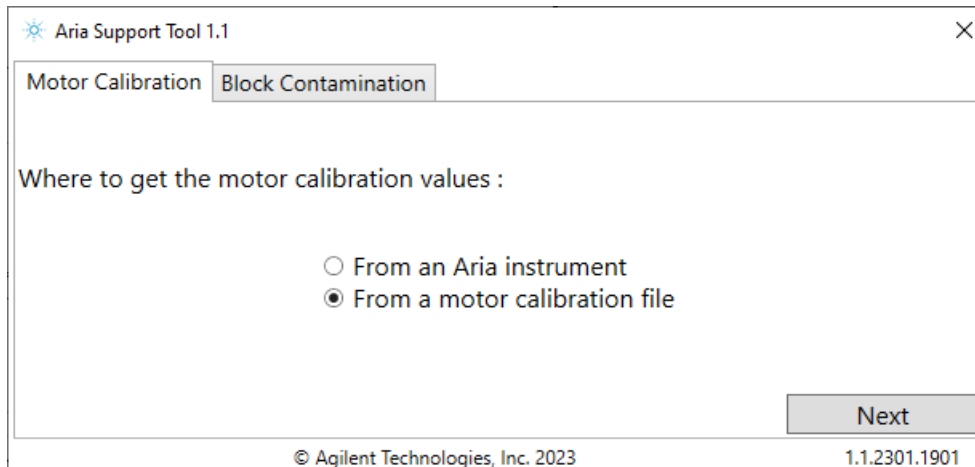

Figure 8 Motor Calibration tab – select **From a motor calibration file**
- 2 Click the Motor Calibration tab. Select **From a motor calibration file**. (See Figure 8.)